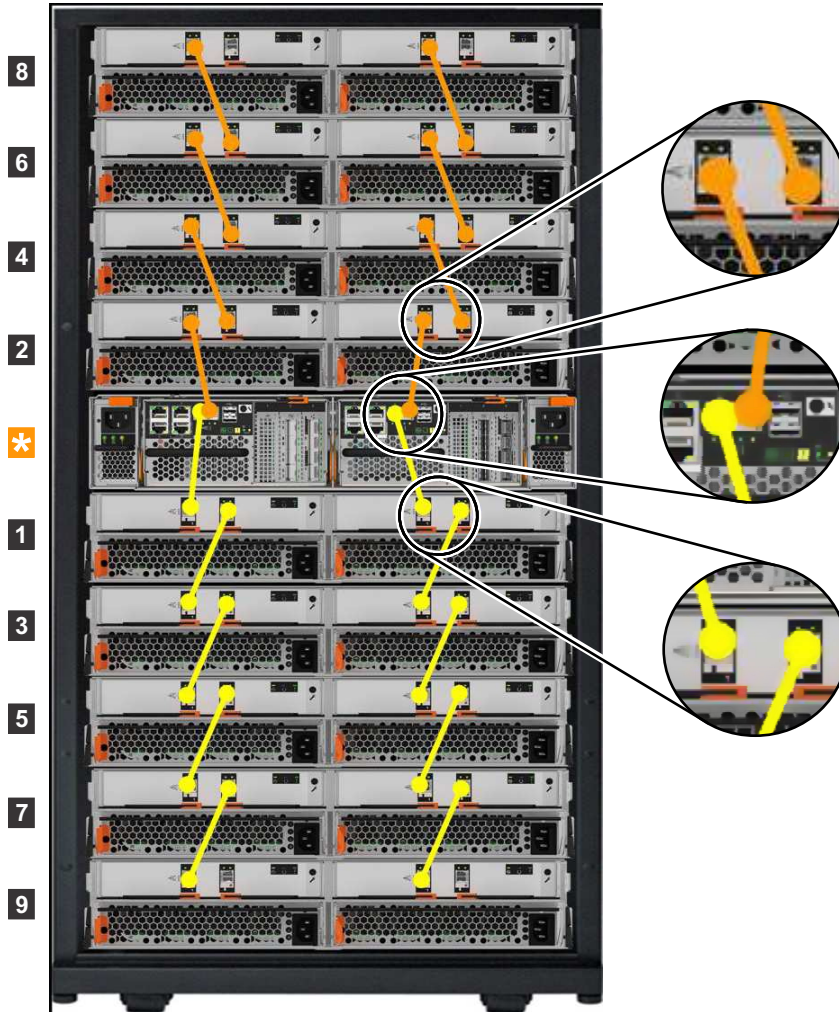

Figure 43. Connecting the SAS cables
2. To add a second expansion enclosure to the control enclosure, use the supplied SAS cables to connect the control enclosure to the expansion enclosure at rack position 2, as shown in Figure 43.
3. If additional expansion enclosures are installed, connect each one to the previous expansion enclosure in a chain, using two Mini SAS HD to Mini SAS HD cables, as shown in Figure 43.